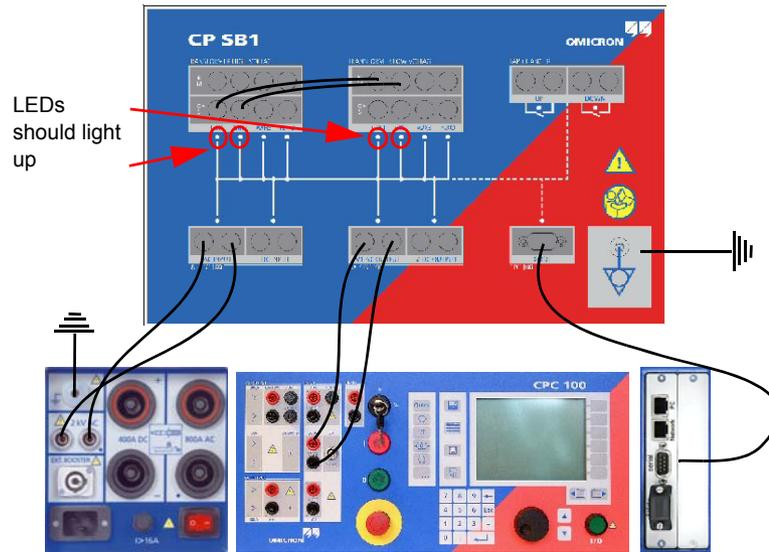

Figure 3-6 Measurement setup for the trouble-shooting test
- Connect the *CP SB1* with the *CPC 100* as shown in Figure 3-6: